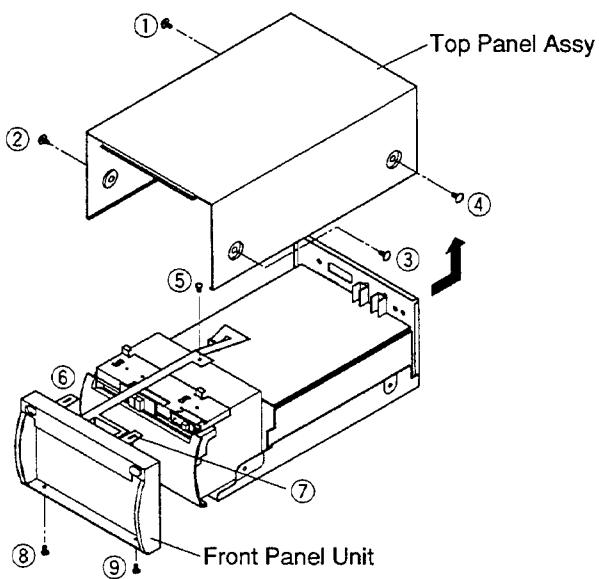

Fig. 1
1. Remove four screws (①, ②, ③ and ④) securing the Top Panel Assy shown in Fig. 1 and remove the Top Panel Assy in the direction of the arrow.
1. Remove the Top Panel Assy. (Fig. 1)
2. Disconnect the Connector (**SW**) shown in Fig. 1.
3. Remove one screw (⑤) securing the Flat Cable shown in Fig.1.
4. Release two catches (⑥ and ⑦) on the Front Panel Unit shown in Fig. 1.
5. Remove two screws (⑧ and ⑨) securing the Front Panel Unit shown in Fig. 1 and remove the Front Panel Unit.
1. Remove the Top Panel Assy, the Front Panel Unit, the Rear Panel and the PCB-MAIN. (Fig. 1, Fig. 3)